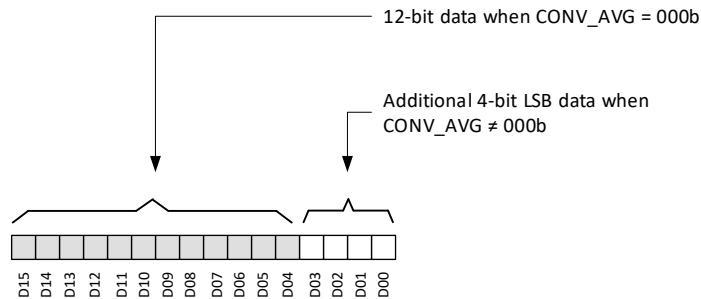

Figure 8-5. Magnetic Sensor Data Definition
The X, Y, and Z magnetic sensor data are stored in the X\_CH\_RESULT, Y\_CH\_RESULT, and Z\_CH\_RESULT registers, respectively. Figure 8-5 shows the 12-bit ADC output stored in 16-bit result registers in 2's complement format. With fastest conversion (CONV\_AVG = 000b), the ADC output loads the 12 MSB bits of the 16-bit result register along with 4 LSB bits as zeros. With CONV\_AVG ≠ 000b, all the 16 bits are used to store the results. With DATA\_TYPE = 00b, the 16-bit magnetic sensor data can be accessed through regular 32-bit SPI read. Use Equation 1 to calculate the measured magnetic field.
- $D_i$  is the data bit as shown in Figure 8-5.